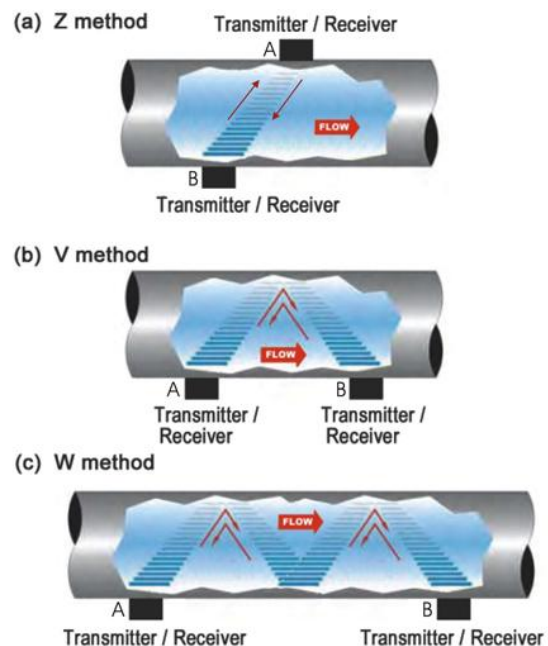

Figure 1
Transit time flow meter utilizes two transducers that function as both ultrasonic transmitters and receivers. The transducers are clamped on the outside of a closed pipe at a specific distance from each other. The transducers can be mounted in V-method in which case the ultra sound transverses the pipe twice, or W-method in which case the ultra sound transverses the pipe four times, or in Z-method in which case the transducers are mounted on opposite sides of the pipe and the ultra sound transverses the pipe only once. The selection of mounting method depends on pipe and liquid characteristics. When the flow meter works, the two transducers transmits and receives ultrasonic signals amplified by multi beam which travels firstly downstream and then upstream (Figure 1). Because ultra sound travels faster downstream than upstream, there will be a difference of time of flight (Δt). When the flow is still, the time difference (Δt) is zero. Therefore, as long as we know the time of flight both downstream and upstream, we can work out the time difference, and then the flow velocity (V) and flow volume (Q) via the following formula.